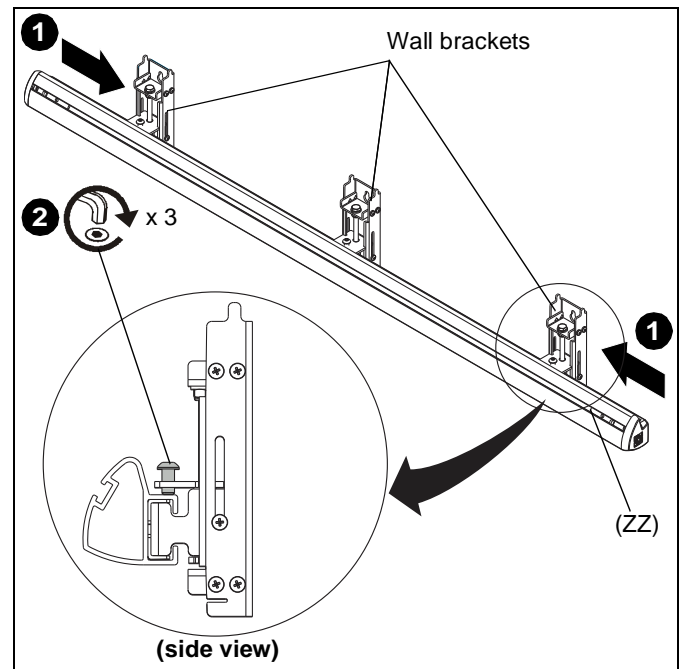

Figure 2
1. Slide outside wall brackets along wall assembly (ZZ), as required, for the wall substrate. (See Figure 2)
2. Tighten button head cap screw on each wall bracket to secure wall brackets to wall assembly. (See Figure 2)